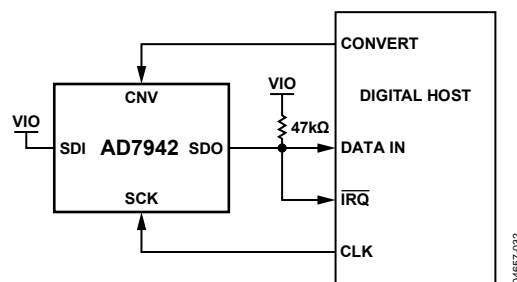
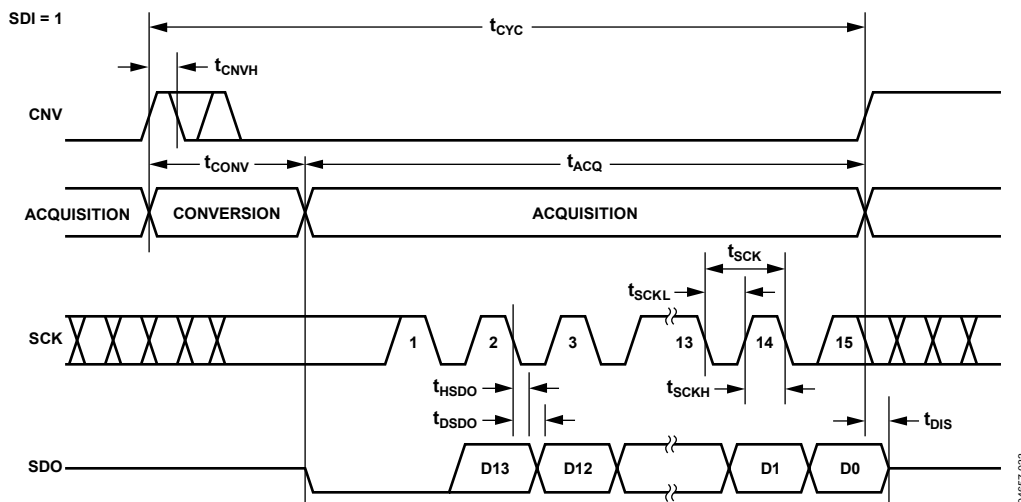
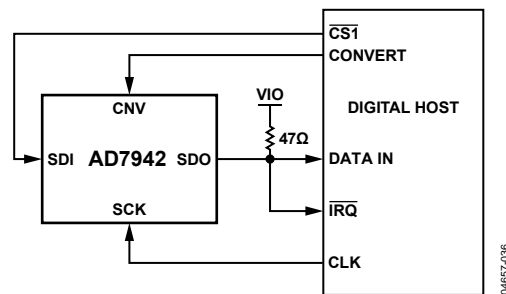
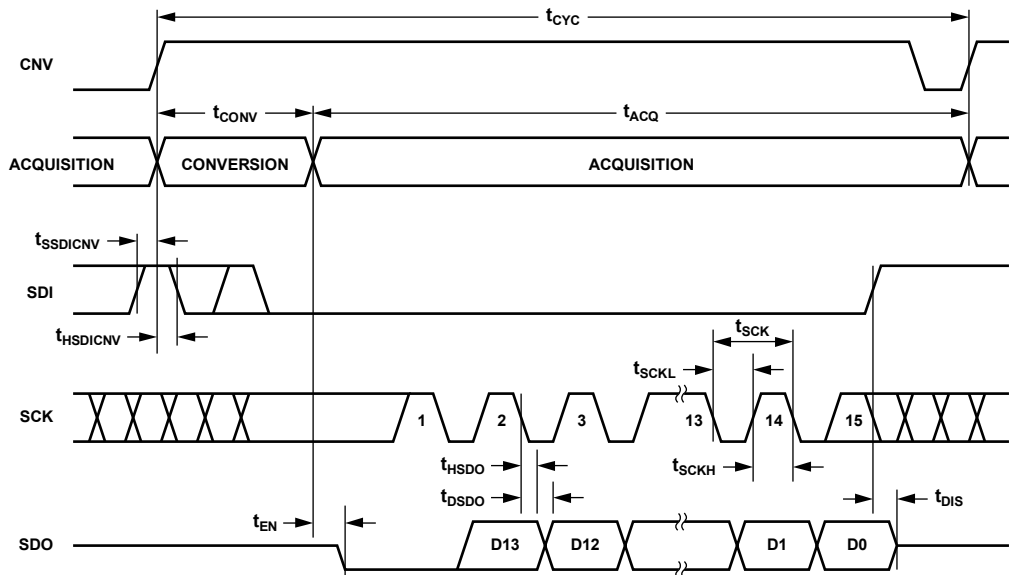

Figure 32. \overline{CS} Mode 3-Wire with Busy Indicator Connection Diagram (SDI High)
Figure 33. \overline{CS} Mode 3-Wire with Busy Indicator, Serial Interface Timing (SDI High)
Figure 36. \overline{CS} Mode 4-Wire with Busy Indicator Connection Diagram
Figure 37. \overline{CS} Mode 4-Wire with Busy Indicator, Serial Interface Timing
- In the \overline{CS} mode, if CNV or SDI is low when the ADC conversion ends (see Figure 33 and Figure 37).
This mode is most often used when a single AD7942 is connected to an SPI-compatible digital host with an interrupt input. The connection diagram is shown in Figure 32 and the corresponding timing diagram is shown in Figure 33.
This mode is most often used when a single AD7942 is connected to an SPI-compatible digital host with an interrupt input and to keep CNV (which is used to sample the analog input) independent of the signal used to select the data reading. This requirement is particularly important in applications where low jitter on CNV is desired. The connection diagram is shown in Figure 36 and the corresponding timing diagram is given in Figure 37.